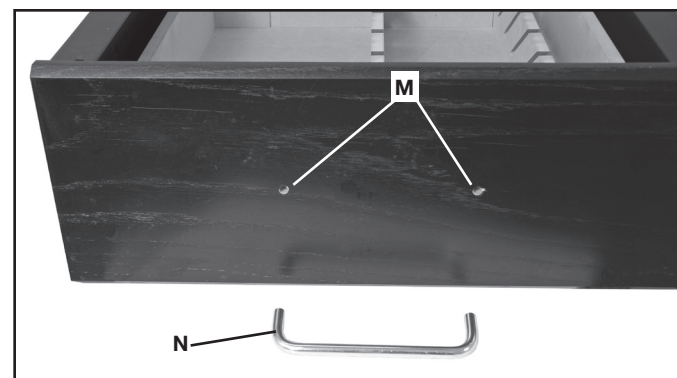

FIG. 7A
Hold the drawer handle (N) Fig. 7A up to the holes (M) and attach handle to the drawer face with two #8-32 x 1-1/2" (38 mm) round head screws (not shown).